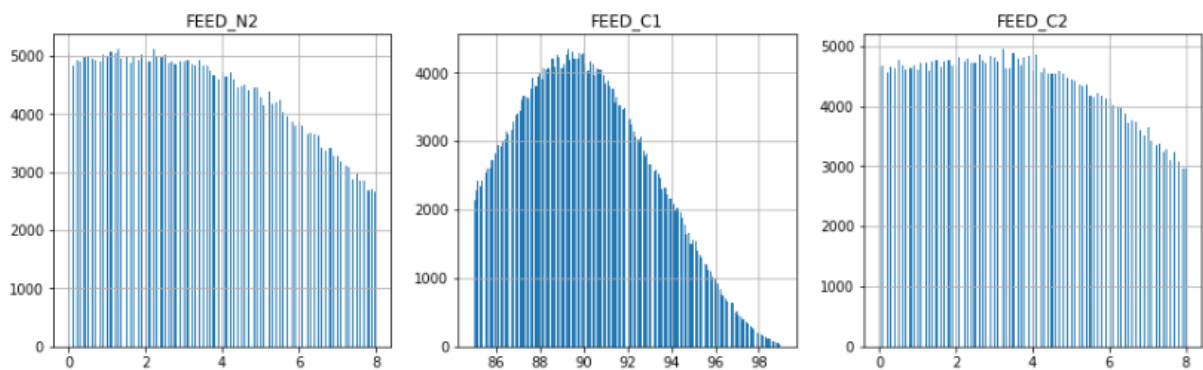

Fig. 2-1
- Visualize original dataset tags by histogram plot. (Fig. 2-1)